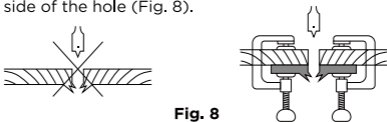

Fig. 8
- When drilling "through" holes, place a block of wood behind the workpiece to prevent ragged or splintered edges on the back side of the hole (Fig. 8).